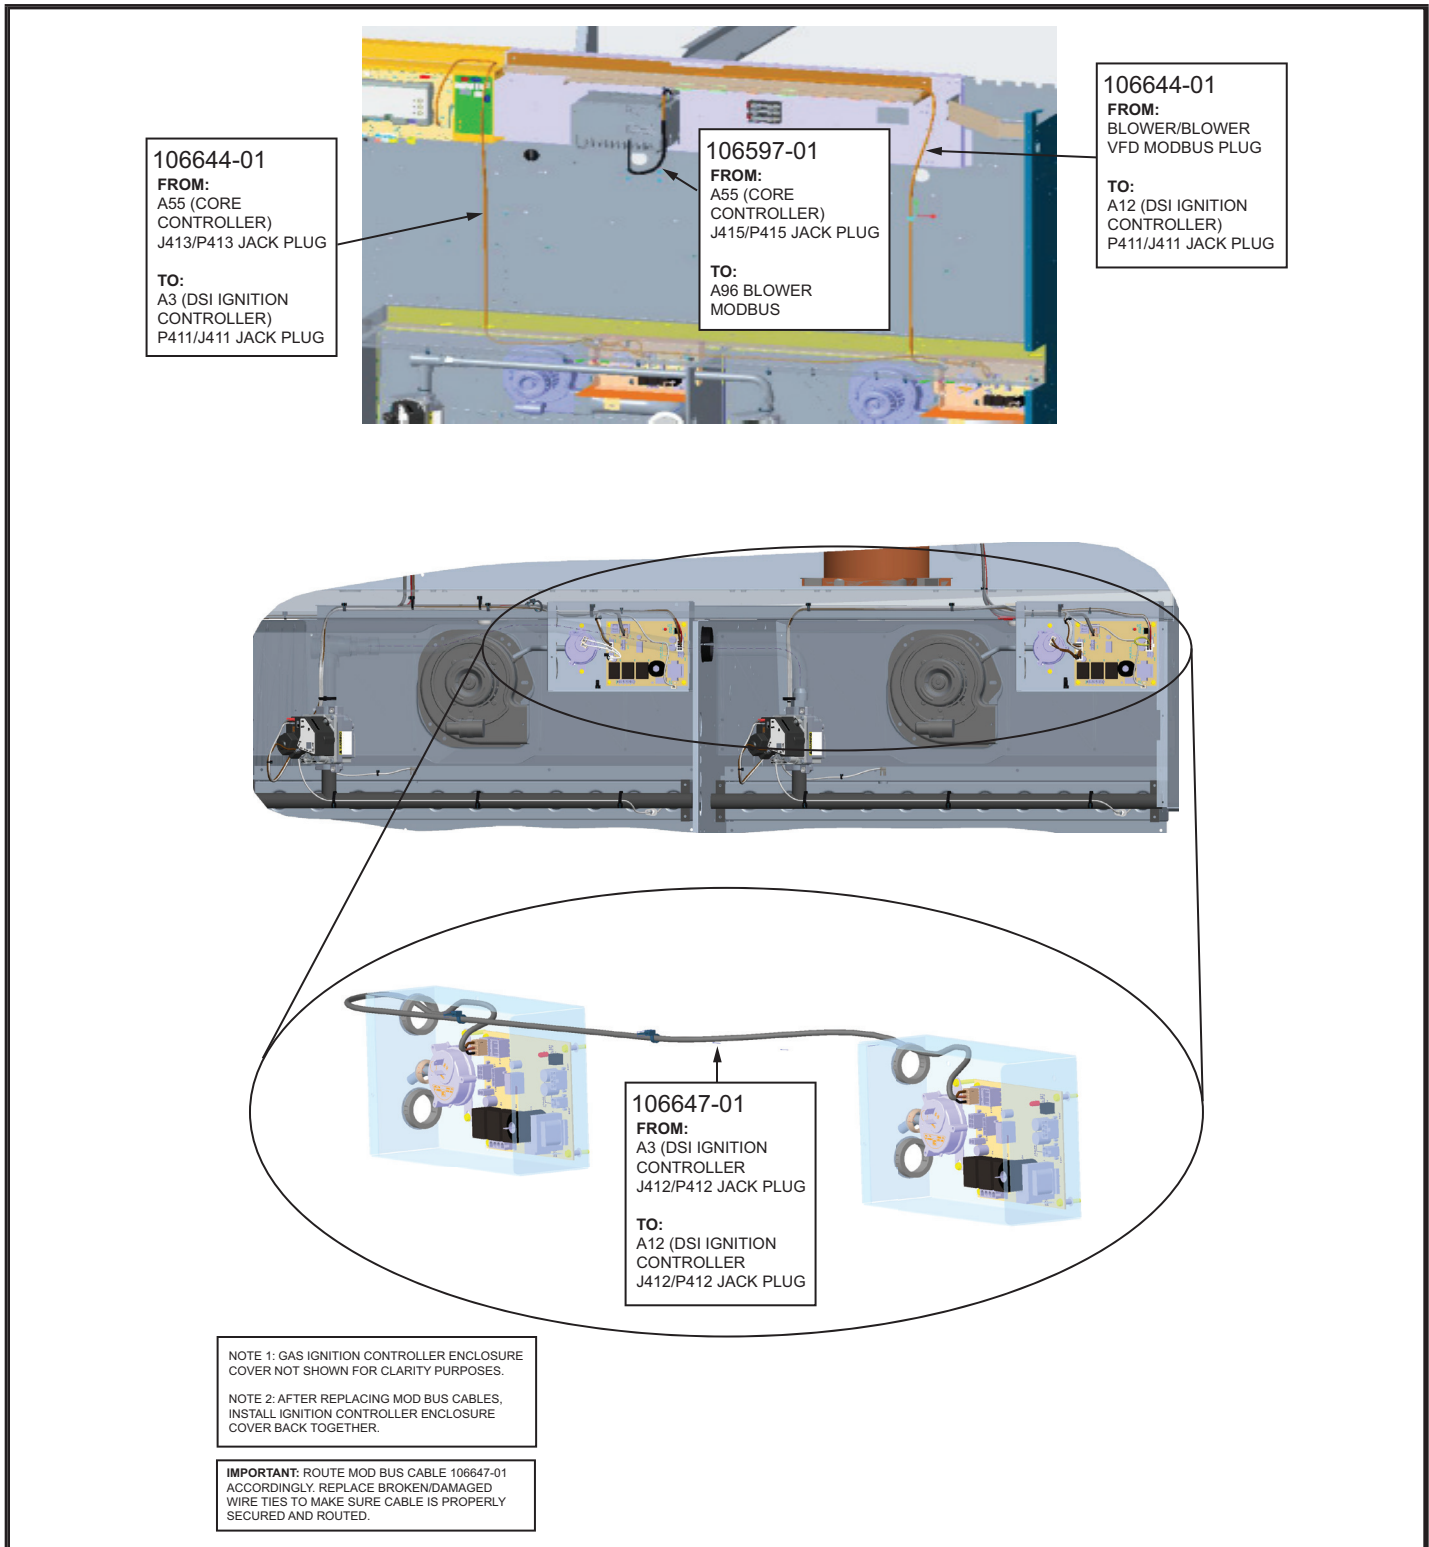
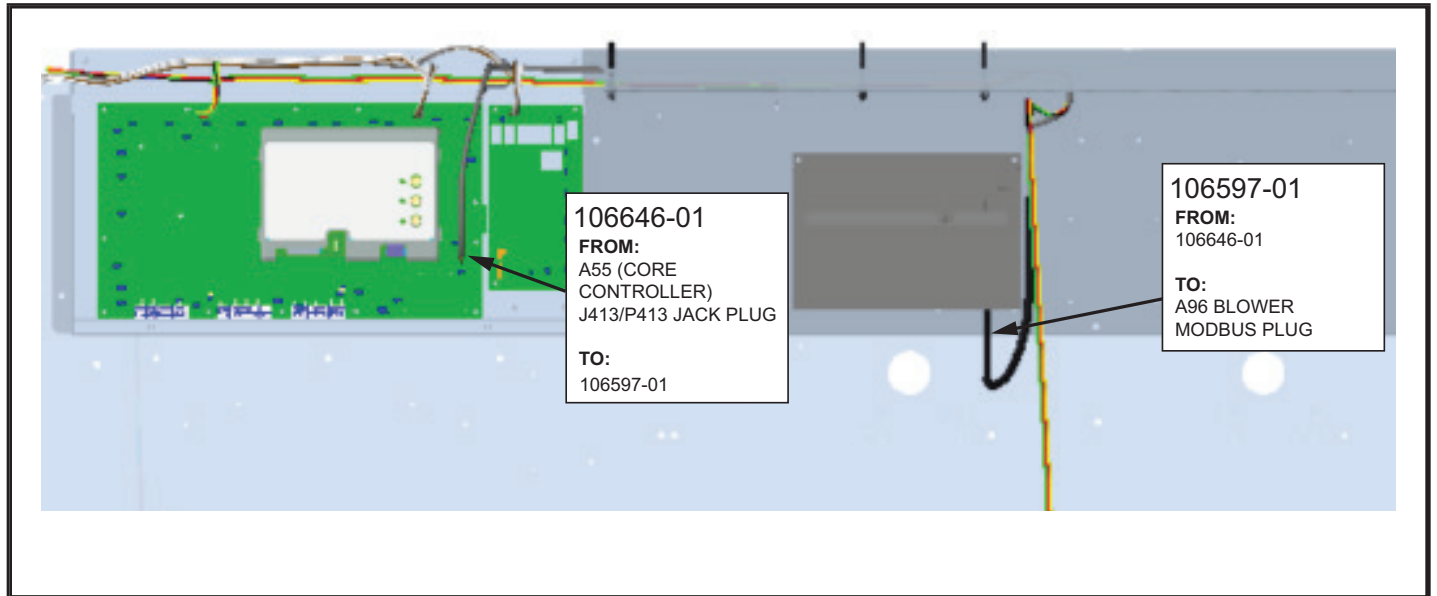
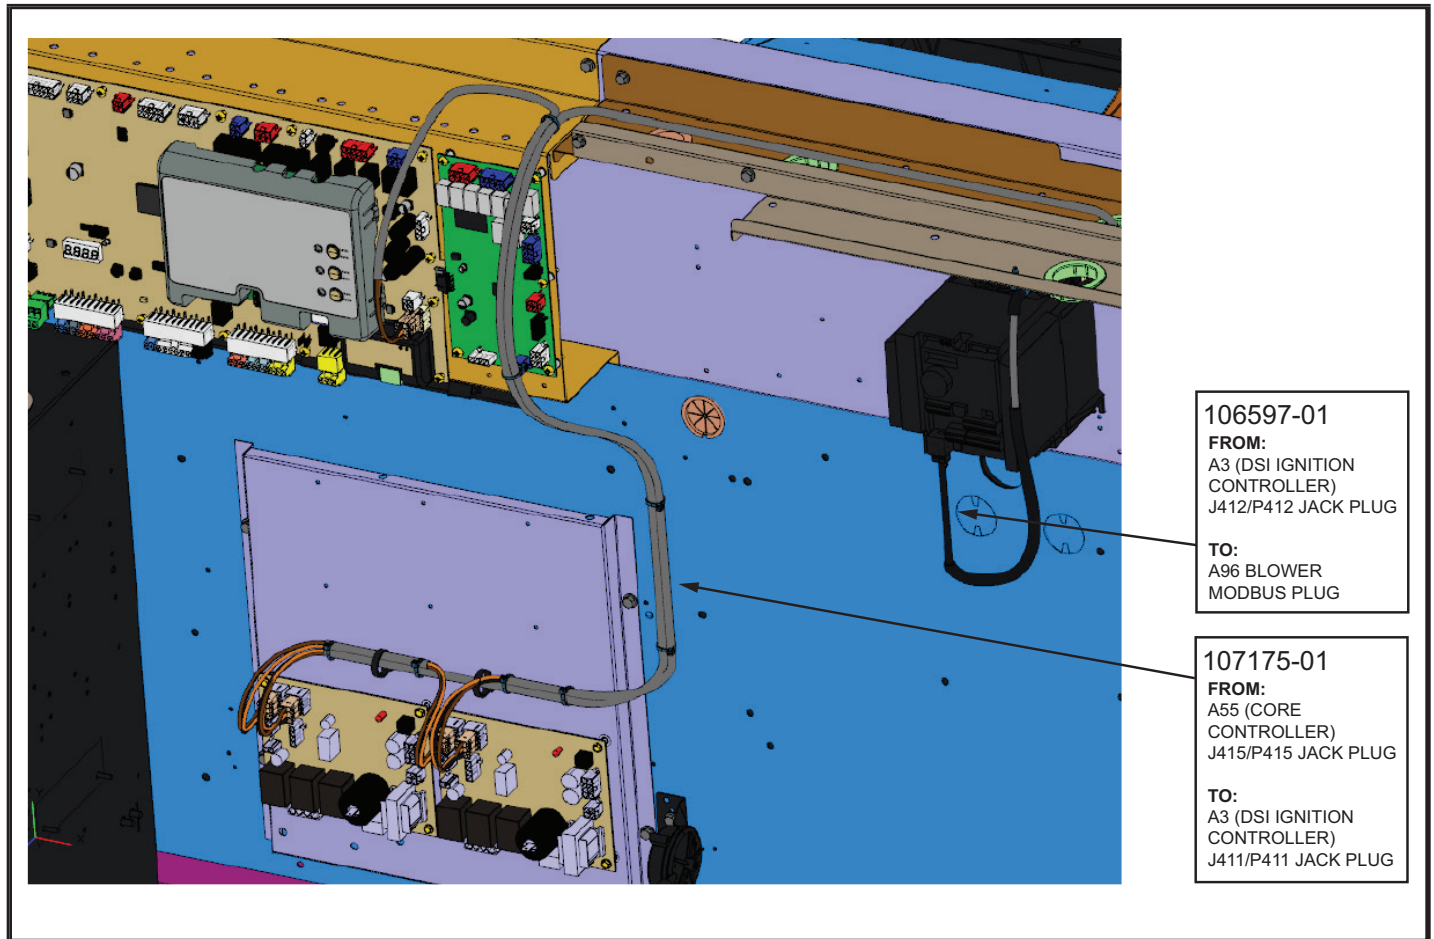
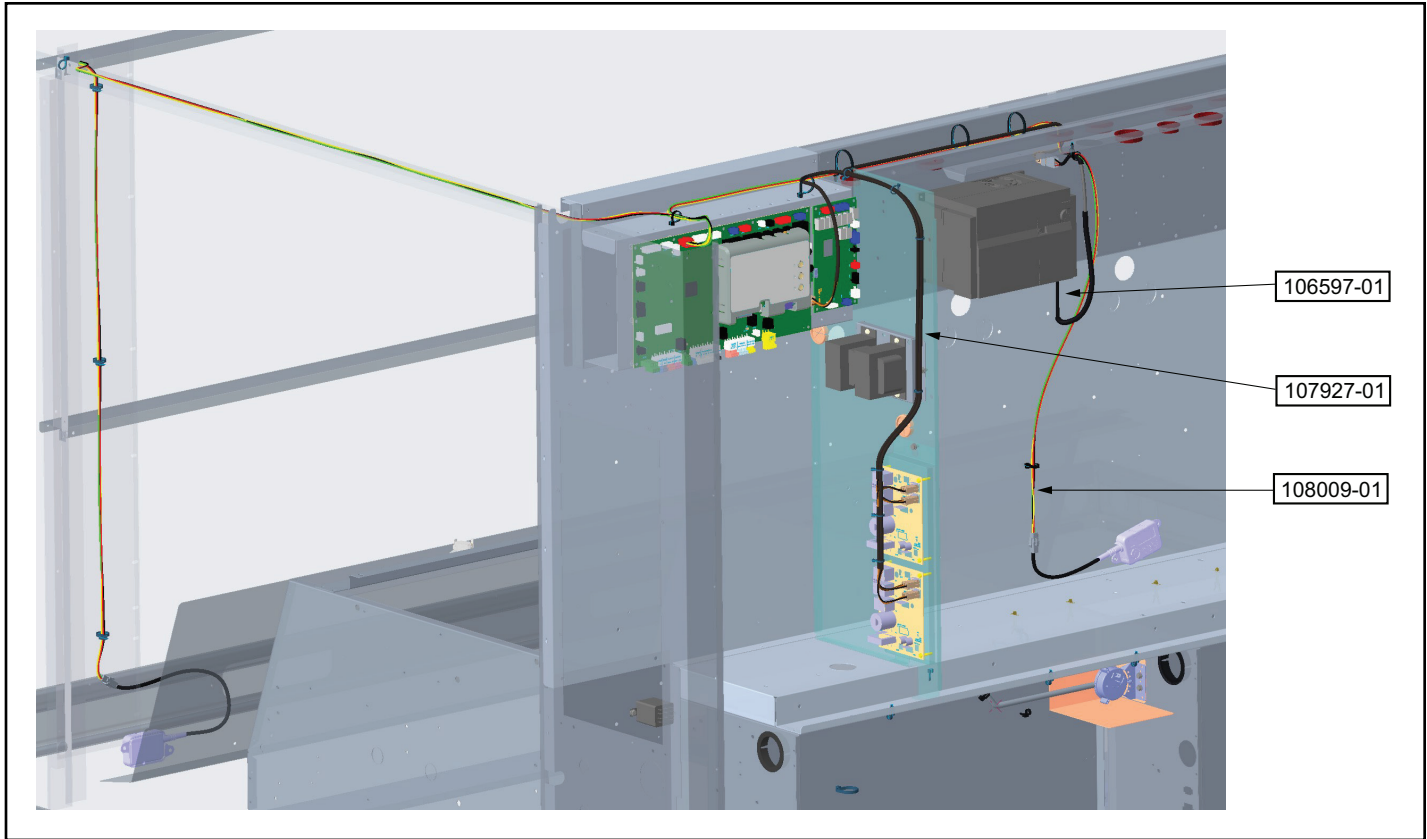

FIGURE 1 LGM Models w/ R410-A
FIGURE 2 LC/LH Models
FIGURE 3 LGT/LDT Models w/ R410-A
FIGURE 4 LG/LD Models (R454B)
4. Remove old set of MODBUS cables from unit. Install and route new set of cables in the unit (see FIGURE 1, FIGURE 2, FIGURE 3, and FIGURE 4).